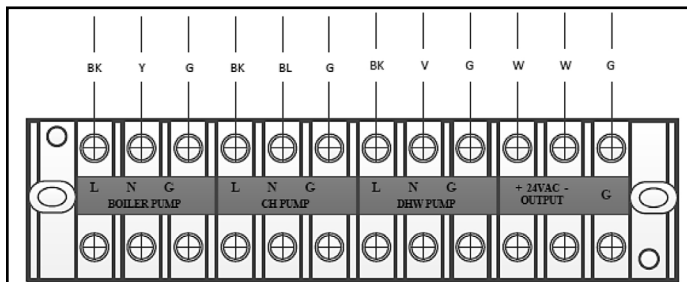

Figure 42 - Line Voltage Wiring Detail
3. Add a resistor to the cascade communication cable of the last unit. See Figure 42.